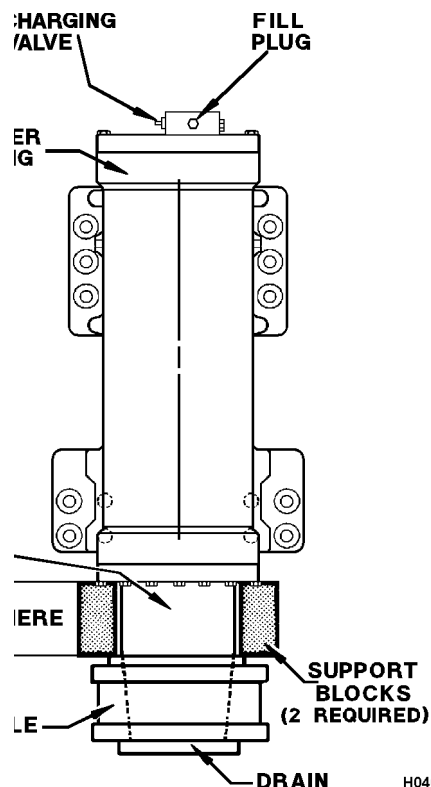

FIGURE 4-2. FRONT SUSPENSION
Exposed piston rod extensions are specified for both oil level and nitrogen charging for Hydrair II suspensions. These dimensions are listed in the tables below Figures 4-2 and 4-5. Measure the dimensions from the face of the cylinder gland to the machined surface on the spindle at the front suspension. At the rear suspension, measure from the face of the cylinder gland to the piston flange.
Support blocks may be made in various forms. Mild steel materials are recommended. Square stock or pipe segments at least 25 mm (1 in.) may be used. The blocks must be capable of supporting the weight of the truck during oiling and charging procedures while avoiding contact with plated surfaces and seals on the suspension. Refer to Figure 4-2 for front suspension support block placement and Figure 4-4 for rear support block placement.
1. Position and secure oiling height dimension blocks 180° apart to provide stability (see Figure 4-2). When nitrogen pressure is released, the suspensions will lower and rest on the blocks. Ensure that the blocks do not mar or scratch the plated surfaces of the pistons or damage wiper seals in the lower bearing retainer. Support blocks must seat on the spindle and the cylinder housing.
4. Remove the top fill plug next to the charging valve (see Figure 4-2).
7. To lower the truck onto the charging blocks, open inlet valve (4) until the pressure drops below the pressure listed in the table below Figure 4-2, then close the valve.
8. Install the center hose to manifold (6).
9. Charge the suspensions to the pressure listed in Figure 4-2. DO NOT use an overcharge of nitrogen to lift the suspensions off the charging blocks.